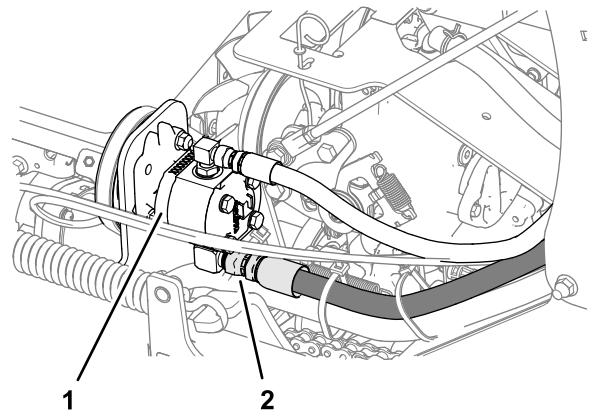

Figure 53
6. Loosen the suction hose at the pump fitting, clean around the pump fitting, and allow oil to drain (Figure 53).